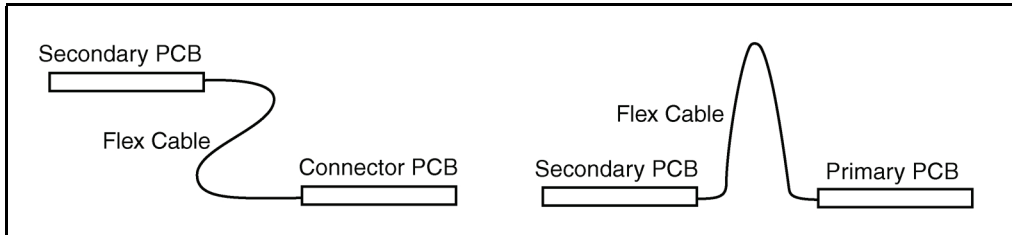

Figure 6-20. MPU PCBA Flex Circuit Bends
1. Refer to Figure 6-20. Ensure that the flex circuit between the Secondary PCB and the Connector PCB has an “S-Shaped” bend with the bend radii approximately equal.
2. Refer to Figure 6-20. Ensure that the flex circuit between the Primary PCB and the Secondary PCB has a “hump-shaped” bend.